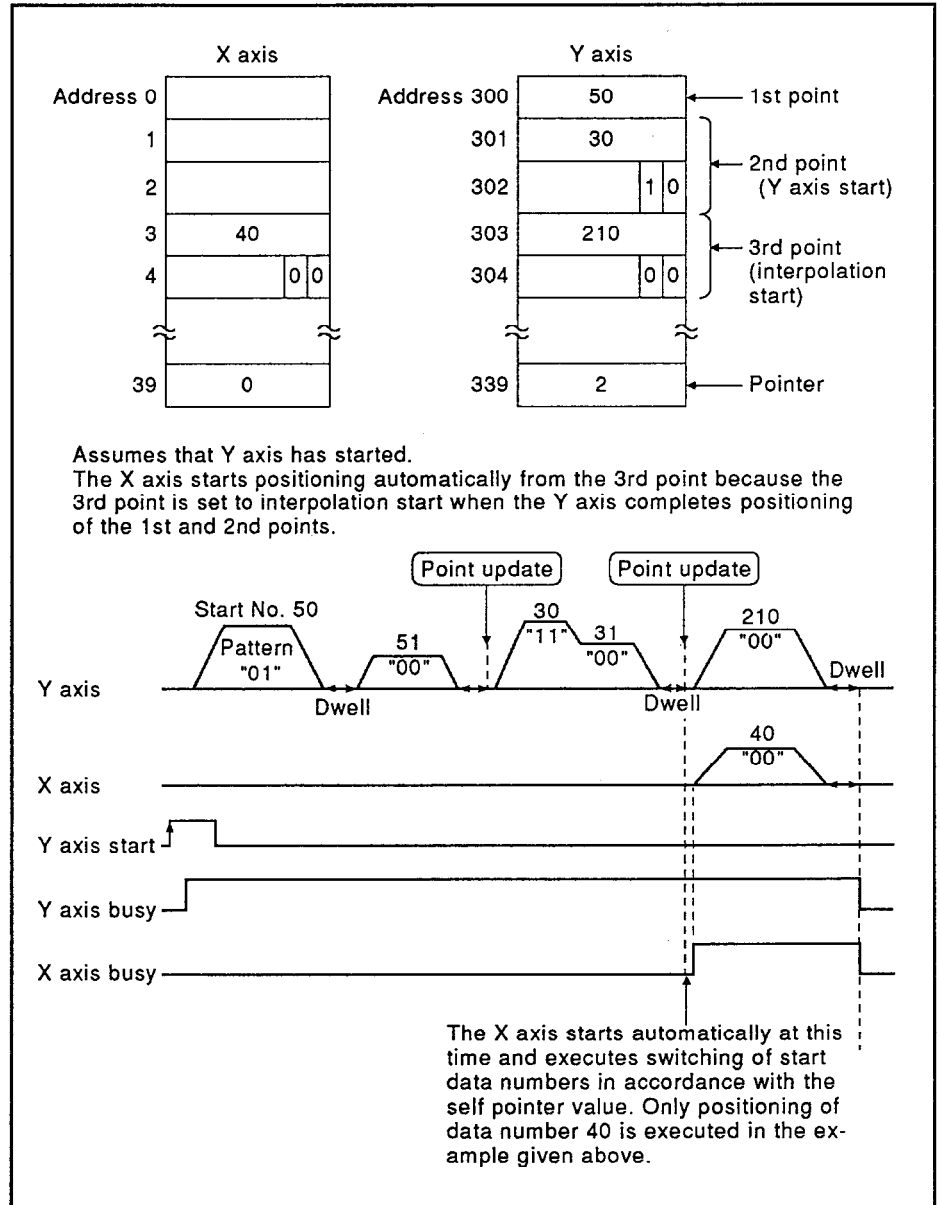

Fig. 3.38 Start Data Example 3
- 3) When the start axis is set to interpolation start (00) or both-axes start (11) and the other axis is not set to BUSY, the other axis starts positioning automatically using the start data number set at the point that is the same as its own axis (refer to Fig. 3.38).